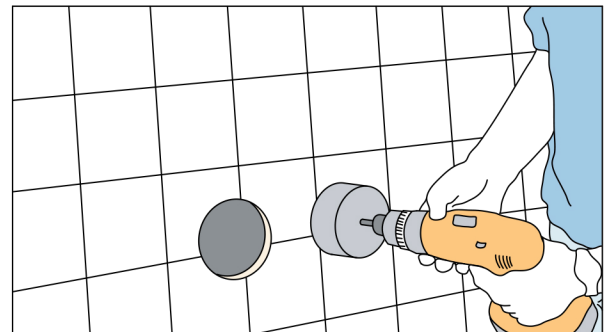

Figure 11
11. Drill the holes for the plumbing, based on the pre-planning discussed in Step 6. **See Figure 11**